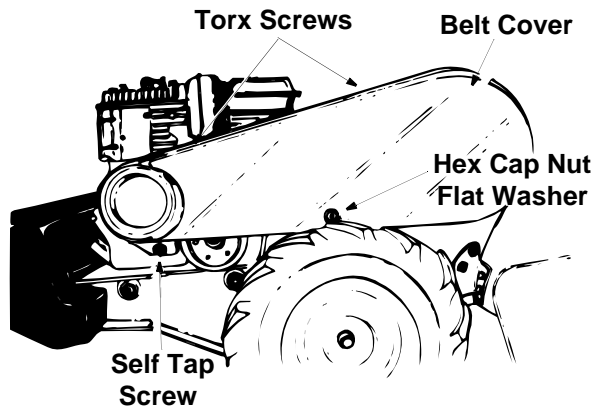

Figure 9
- Remove the belt cover from the left side of the tiller as follows: See Figure 9. Remove two torx screws from the top of belt cover.